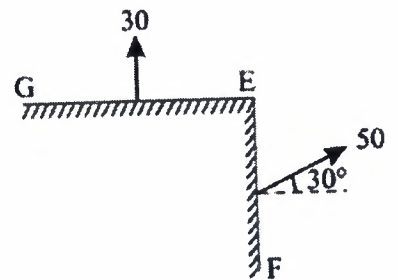

Figure 2
4. At a point in a material under stress, the intensity of the resultant stress on a certain plane is 50 MN/m² (tensile) inclined at 30 degree to the normal of that plane. The stress on a plane at right angles to this has a normal tensile component of intensity of 30MN/m² as shown in Figure 2. Calculate: [2+2+2]